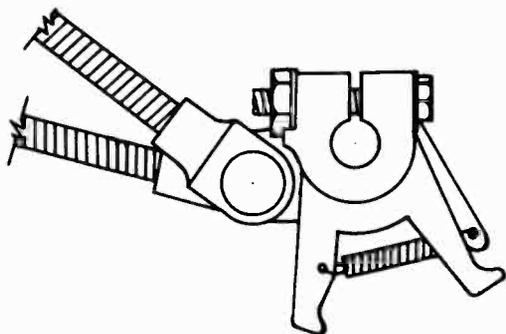

Fig. 6
Blade finger (42) looks like Fig. 6. A visual spacing of approximately $\frac{1}{64}$ between the rounded edge of the toggle assembly and the Push-off Blade finger when viewed directly from the bottom of the record changer is required. See Fig. 6. Since these two parts lie on different planes, this adjustment must be made by observation only.
7. While holding the Push-off Blade and Record Shelf Assembly tight against the Housing (6), push the Index Toggle Assembly (41) against the spacer (40) and tighten the lock bolt.
8. Tighten the Push-off Blade bracket lock bolt, leaving approximately $\frac{1}{64}$ " clearance between the shoulder of the Record Shelf shaft and the Push-off Blade finger bracket (42).